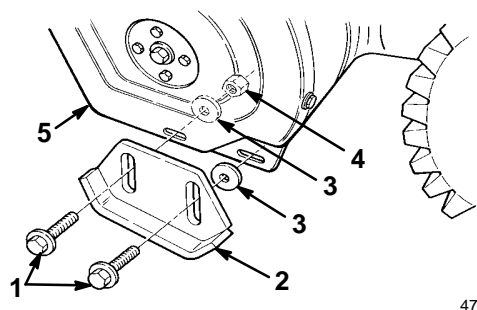

Figure 16
- Remove two flange bolts and flat washers that secure the ends of the scraper to the side plates (Fig. 16).
- Install the bolts through the rear slots in the skids, with the **washers between the skids and the side plates** (Fig. 16). Do not tighten the bolts.